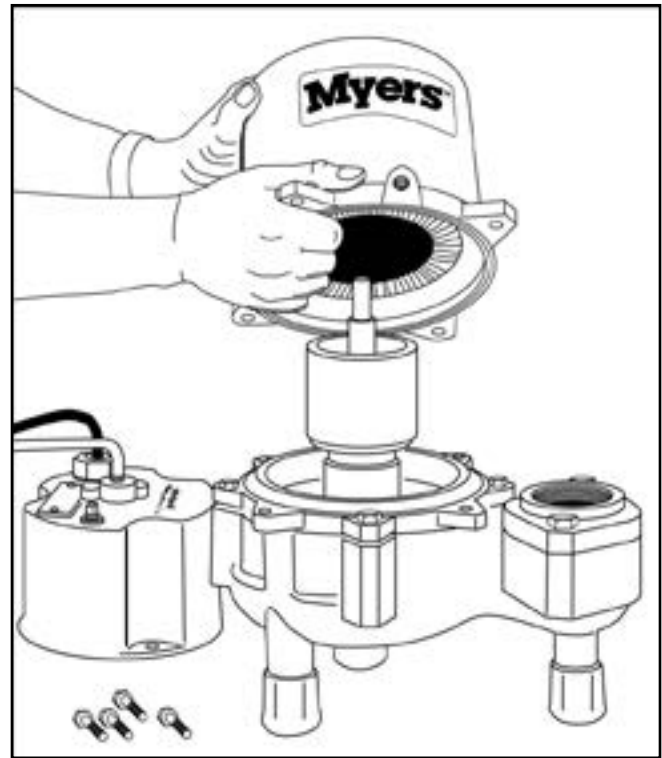

FIG. 16
3. Lift off motor housing, pry between ears to loosen. Fig. 16